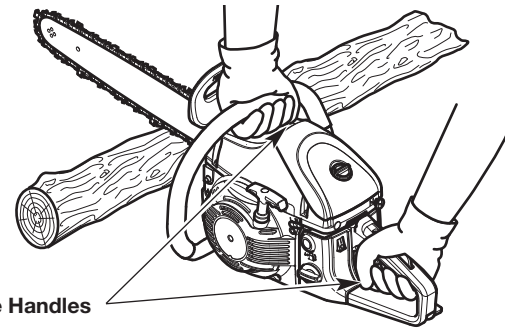
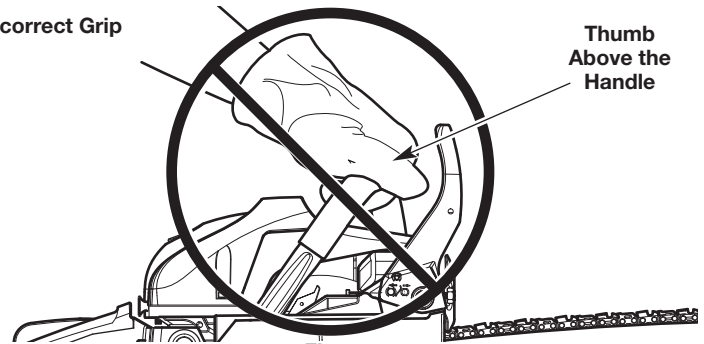

Fig. 6
Fig. 7
- Firmly encircle the handles with the thumbs and fingers (Fig. 6). This will help reduce the chance of losing control of the unit if kickback occurs. Any grip with thumbs and fingers on the same side of the handles is dangerous (Fig. 7).